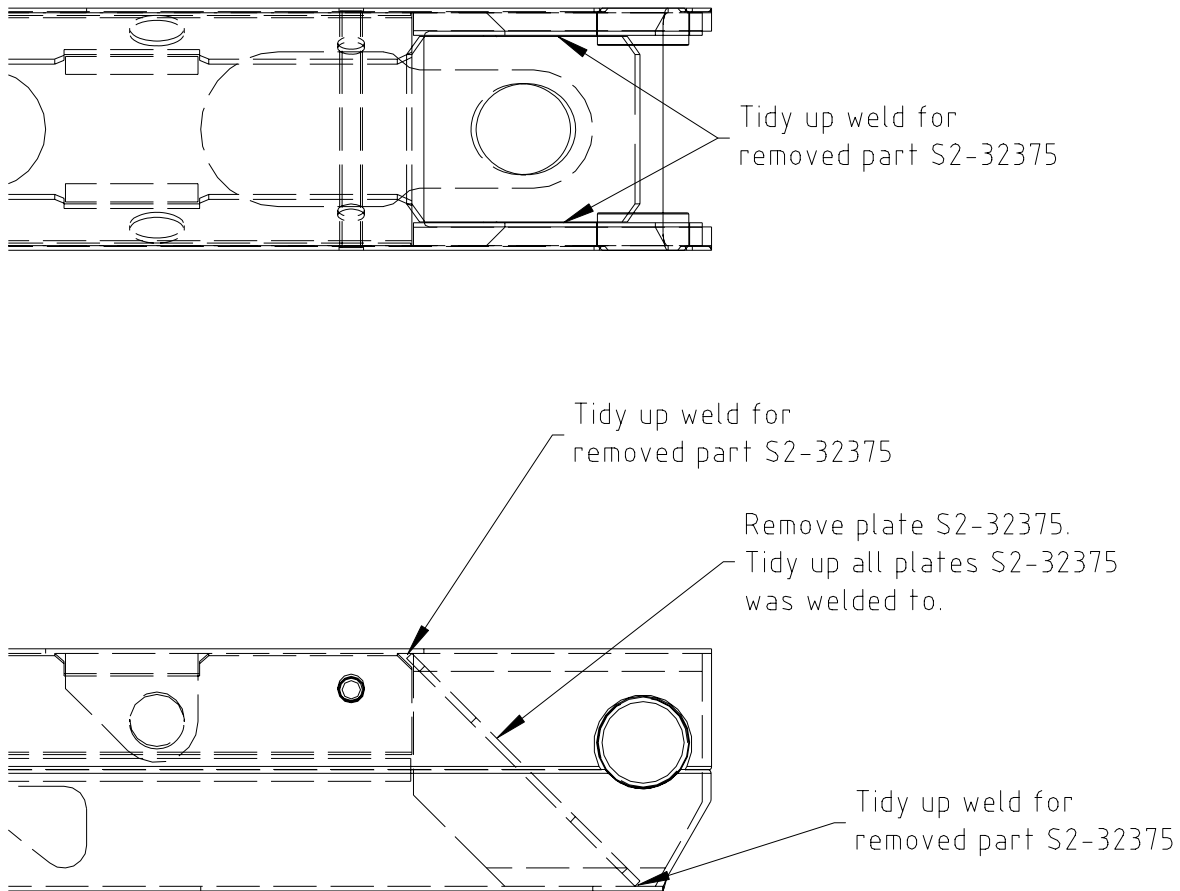

Figure 1: Removal of part S2-32375
1. Remove on the crane base part S2-32375 (Plate diaphragm arm end), which is the sloped plate in figure 1. This plate needs to be removed, without damaging any other plates it is welded to. The surrounding plates, that S2-32375 was welded to, need to be tidied up so that their surfaces are flat.